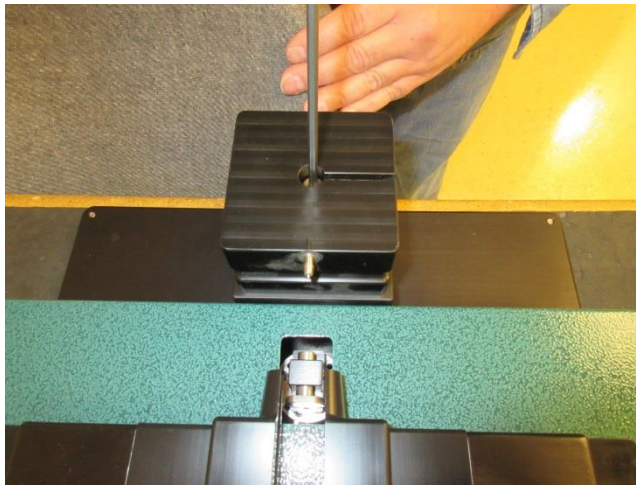

Figure 11: Tightening the shoulder bolt
- Tighten the shoulder bolt with a 4mm Allen wrench. (Figure 11)